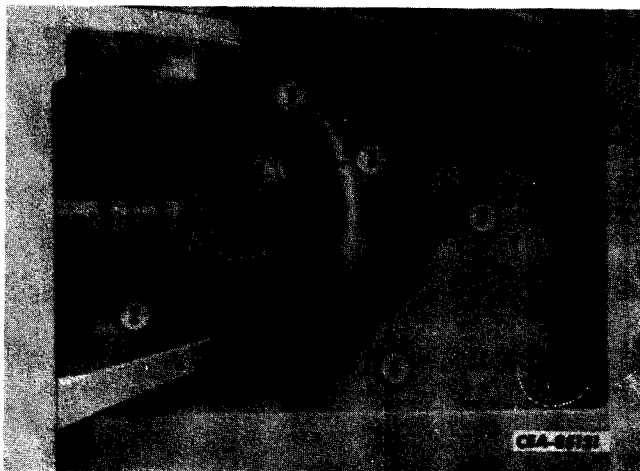

Figure 13-58
Remove cap screws (1, Fig. 13-58) that secure transmission-to-transfer drive shaft (2) to transfer drive yoke (3). Remove drive shaft from yoke.
Connect parking brake linkage (5, Fig. 13-58) to operating cam lever (4).